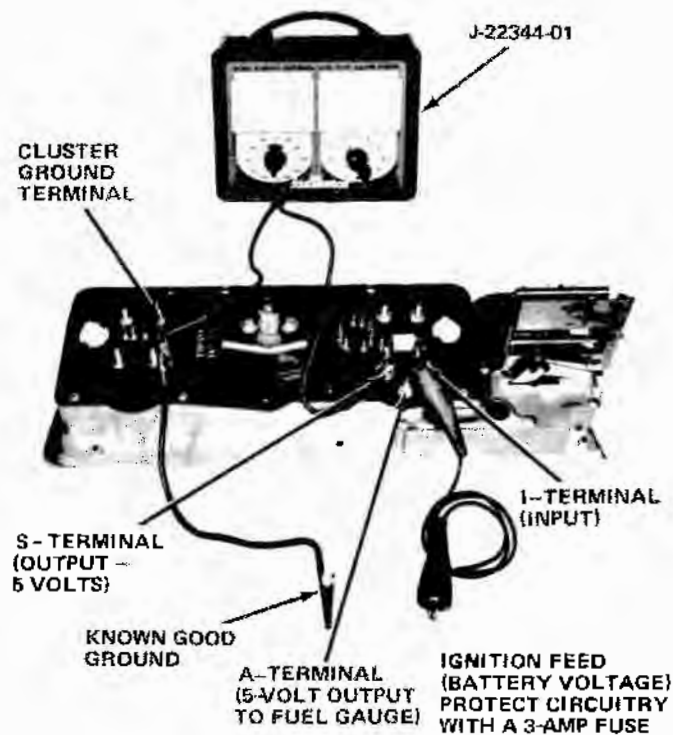

Fig. 3-61 Testing Temperature Gauge - Cherokee, Wagoneer, and Truck
(1) Disconnect battery negative cable.
(2) Remove instrument cluster and disconnect all electrical connections.
(3) Connect a jumper wire from cluster ground terminal to known good ground (fig. 3-61).
(4) Connect an ignition feed wire protected by a 3-amp fuse to E-pin terminal. This applies voltage through radio noise suppressor to I-terminal of temperature gauge.
(5) Ground one lead of Gauge Tester J-22344-01 to known good ground.
(6) Connect battery and turn ignition on.
(7) To check fuel gauge, touch remaining lead of Gauge Tester to L-terminal.
(8) To check temperature gauge, touch C-terminal.
(9) Dial resistance required as shown in Fuel and Temperature Gauge Ohm Value Chart and observe gauge.
(10) Check full range of gauge. If gauge is not correct through entire range, it should be replaced.
TEST RESULTS With Tester Connected as Shown in Figure 3-61	POSSIBLE LOCATION OF TROUBLE